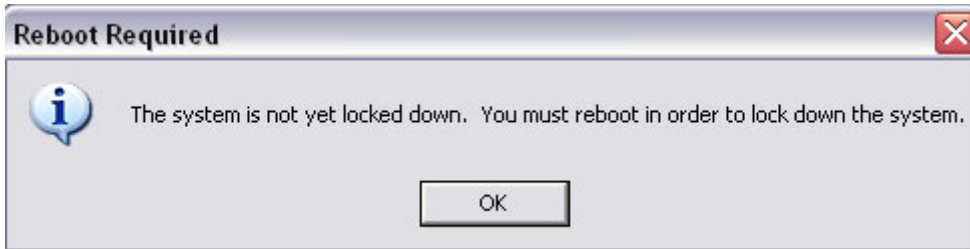

Figure 49: "Reboot Required" message
11. The **Reboot Required** message appears (Figure 49); click **OK**.